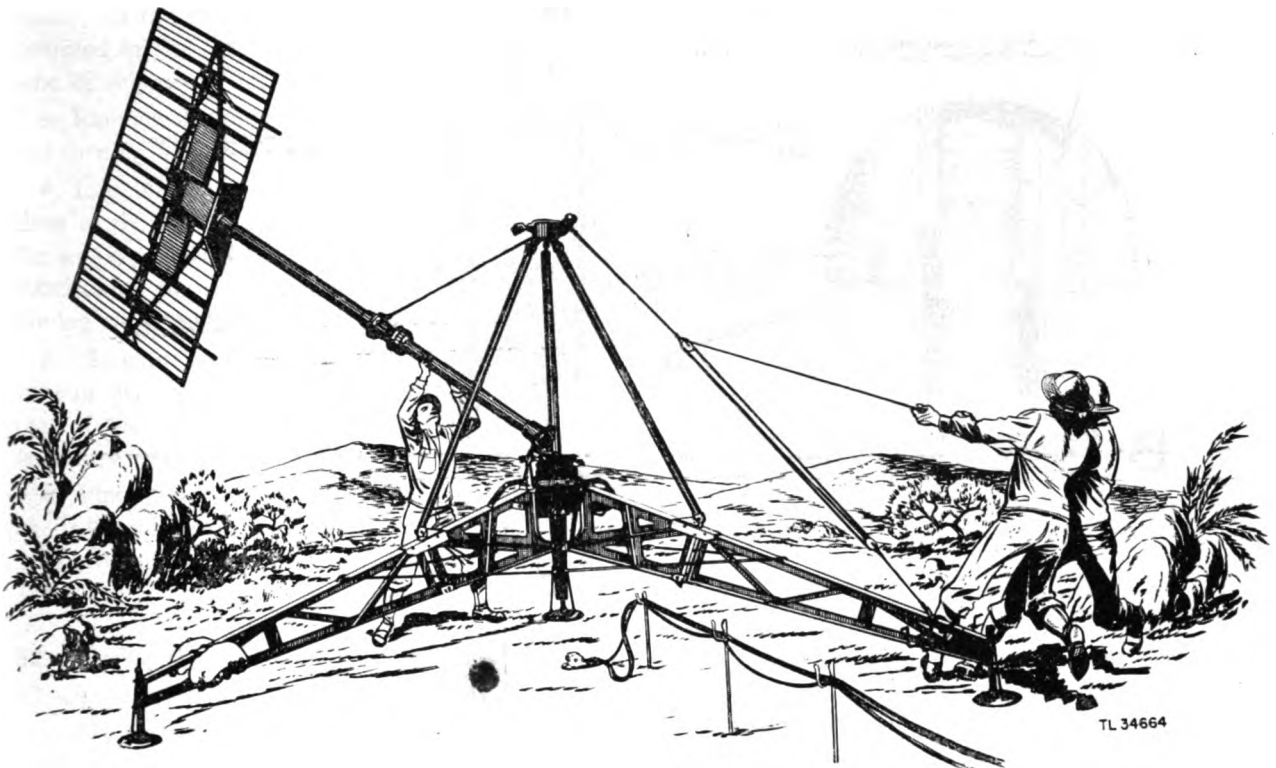

Figure 66. Tower TR-24-A, raising mast and antenna.
j. Erect the mast as shown in figure 66. It will be necessary for at least two men to push upward on the mast until it can be erected by block and tackle. Care should be taken that the base of the mast does not jar against the top of the gearcase when the mast is fully erected.
Tower TR-24-A is connected to Trailer K-75-A by two cables, Cords CD-981 and CD-982. Both of the cables are kept off the ground between the trailer and the tower by rod supports driven into the ground at convenient distances apart (fig. 66). Paragraph 38 describes the connection of the two cables to the tower junction box on the trailer. Connect the cables to the tower as follows: